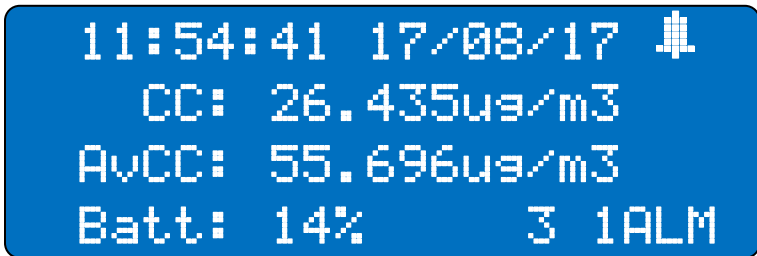
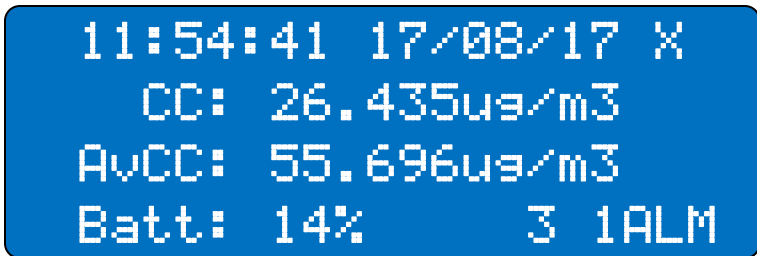

Figure 25 Buzzer Un-muted as Displayed on the LCD
Figure 26 Buzzer Muted as Displayed on the LCD
The buzzer will beep once if the power button is pressed. When pressed once, the buzzer will toggle between the muted and unmuted states. If muted, the buzzer will not sound for any alarm conditions or Bluetooth connection. The LCD will show (X) for muted or (🔊) for unmuted on the top right corner of the screen, as shown in **Figure 25** and **Figure 26**.